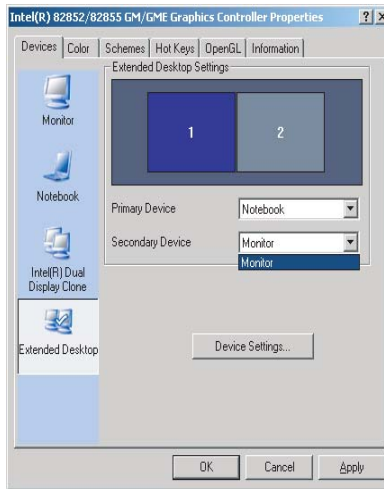

Figure B-2 Intel(R) 82852/82855 GM/GME Graphics Controller Prope...(1)
[Intel(R) 82852/82855 GM/GME Graphics Controller Prope...] displayed (See Figure B-2).
- 2) Click  in the left of [Devices] tab (See Figure B-2), then select [Extended Desktop].